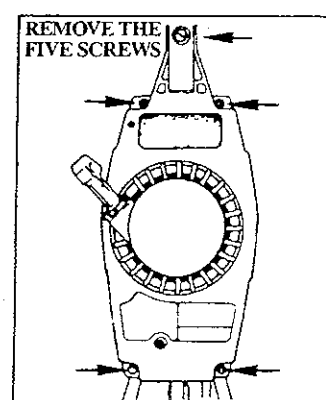

Figure 25
4. Remove the five screws from fan housing. Figure 25.